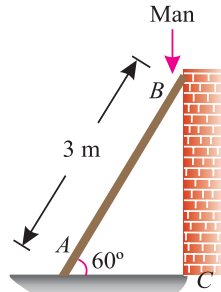

Fig. 9.5.
**Example 9.4.** A uniform ladder 3 m long weighs 200 N. It is placed against a wall making an angle of  $60^\circ$  with the floor as shown in Fig. 9.5.